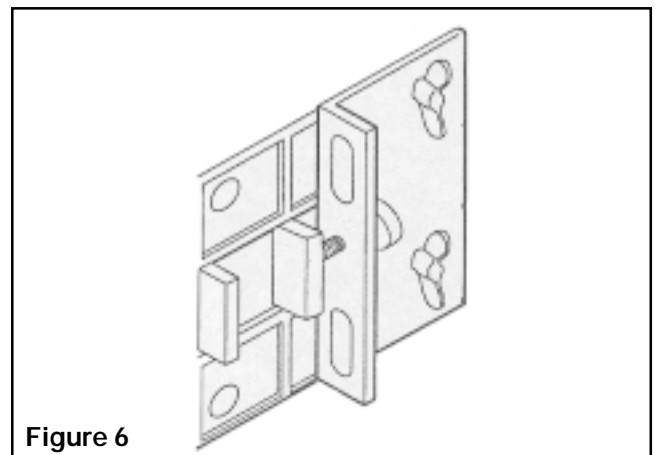

Figure 6
3. Using four Wing Screws provided, secure Mounting Brackets to Mounting Shell (See Fig. 6).
4. Insert Adjustment Screws and Jam Nuts into center hole of Mounting Brackets (See Fig. 6).
5. Adjust screws until panel is firmly clamped between "TM140" Front Panel Bezel and Slides (See Fig. 6).